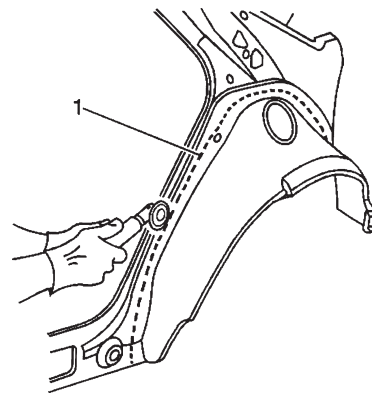

Fig. 4.31 — Create Service Part
- 1 Trim the service part to leave approximately 25mm (1 inch) vertical flange (Fig. 4.31).